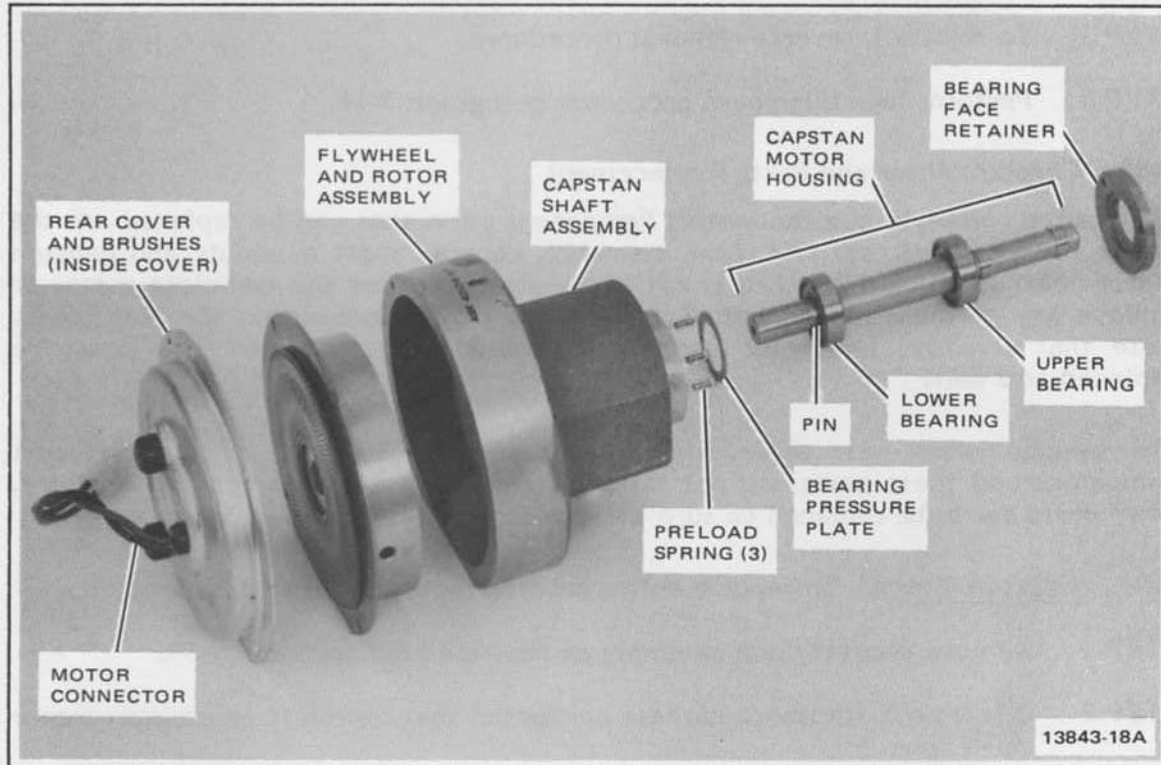

Figure 5-47. Capstan Motor Exploded View
Besides the complete capstan motor, component parts that can be replaced are the motor brushes, flywheel and rotor assembly, capstan shaft assembly and capstan motor bearings (Figure 5-47). It is not necessary to remove the complete motor to replace any of these component parts. Brushes are located within the rear cover. Note that flywheel and rotor are not separable parts and therefore must be replaced as a unit.
5-93 Flywheel and Rotor. Use following procedure to replace flywheel and rotor assembly (Figure 5-47).
- STEP 3 Remove bearing face retainer (three screws and washers shown in Figure 5-47).
- STEP 6 Check that bearing pressure plate shown in Figure 5-47 (looks like large washer) is either resting on the springs or is held by grease film to low bearing on capstan shaft assembly.
- STEP 2 Prior to removing lower bearing (Figure 5-47), remove 0.062 flywheel drive pin from the capstan shaft.
- STEP 6 If the lower bearing (Figure 5-47) was replaced, reinstall the 0.062 pin removed in step 2. Use an adhesive such as Loctite to secure pin. Be sure pin is fully bottomed in hole drilled in side of shaft.